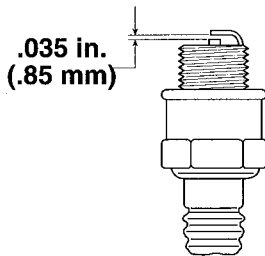

Figure 25
3. Set spark plug gap at .035 inch (.85 mm) (Fig. 25).